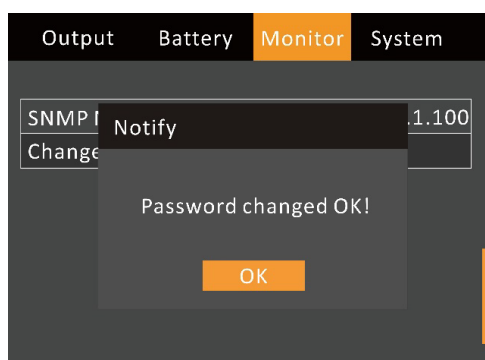

Figure 3-23 Password changed OK
6. After the confirmation, press the key and the system prompts that the password changing is successful, see Figure 3-23.